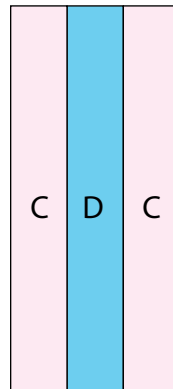

Fig. 3
3. Sew (1) $1\frac{1}{2}$ " x WOF Fabric C strip to each side of (1) $1\frac{1}{2}$ " x WOF Fabric D strip lengthwise to make (1) CDC strip set (Fig. 3).